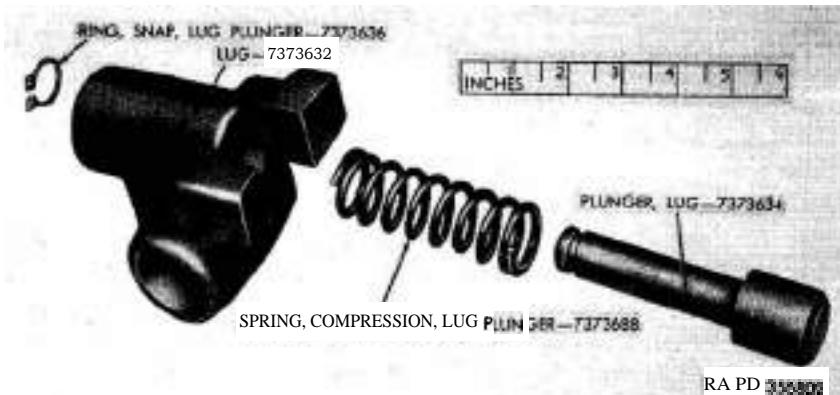

Figure 112. Reverse shifter shaft lug assembly—exploded view.
Note. Do not disassemble reverse shifter lug assembly (fig. 112) unless inspection (par. 122c) reveals that replacement of parts is necessary.
Note. If reverse shifter lug plunger (fig. 112) operates under considerable spring tension and the reverse shifter lug snap ring is in good condition, do not disassemble lug assembly.
e. Inspect Shifter Shaft Interlock Plungers and Shifter Shaft Interlock Plunger Pin. Inspect shifter shaft interlock plungers (B and G) and shifter shaft interlock plunger pin (F) for wear, distortion, or corrosion. If any of these conditions exist, replace plungers and/or pin.
- (1) Inspect lower shift lever (N) for wear or damage. If either of these conditions exist, replace lever.
- (2) Inspect shift lever-compression spring (Q) for distortion or cracks. If either of these conditions exist, replace spring.
- (3) Inspect shift lever ball friction plate (P) for wear or damage. If either of these conditions exist, replace friction plate.
- (4) Inspect shift lever guide pin (K) for wear or damage. If either of these conditions exist, replace pin.
- (5) Inspect shift lever ball cap (L) for deterioration of rubber. If cap is deteriorated, install a new cap.
P. Inspect First and Second Speed Shifter Shaft Lug. Inspect first and second speed shifter shaft lug (fig. 112) for wear or damage. If either condition exists, replace lug.
P. Inspect Transmission Case Cover. Inspect transmission cover (M) for damaged machined surfaces and cracks. If either condition exists, replace cover.
- (1) If replacement of reverse shifter shaft lug assembly (fig. 112) is necessary (par. 122c), place lug plunger compression spring and lug plunger in lug.
- (2) Push plunger in lug and install lug plunger snap ring.